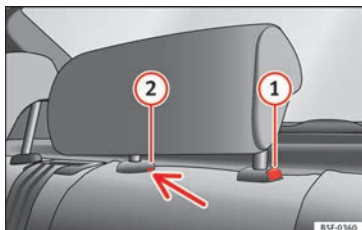

Fig. 142 Rear centre head restraint: release point.
- Press button **①** » **Fig. 142**, while simultaneously pressing on the security hole **②** » **Fig. 142** with a flat screwdriver a maximum of 5 mm wide, and remove the head restraint.